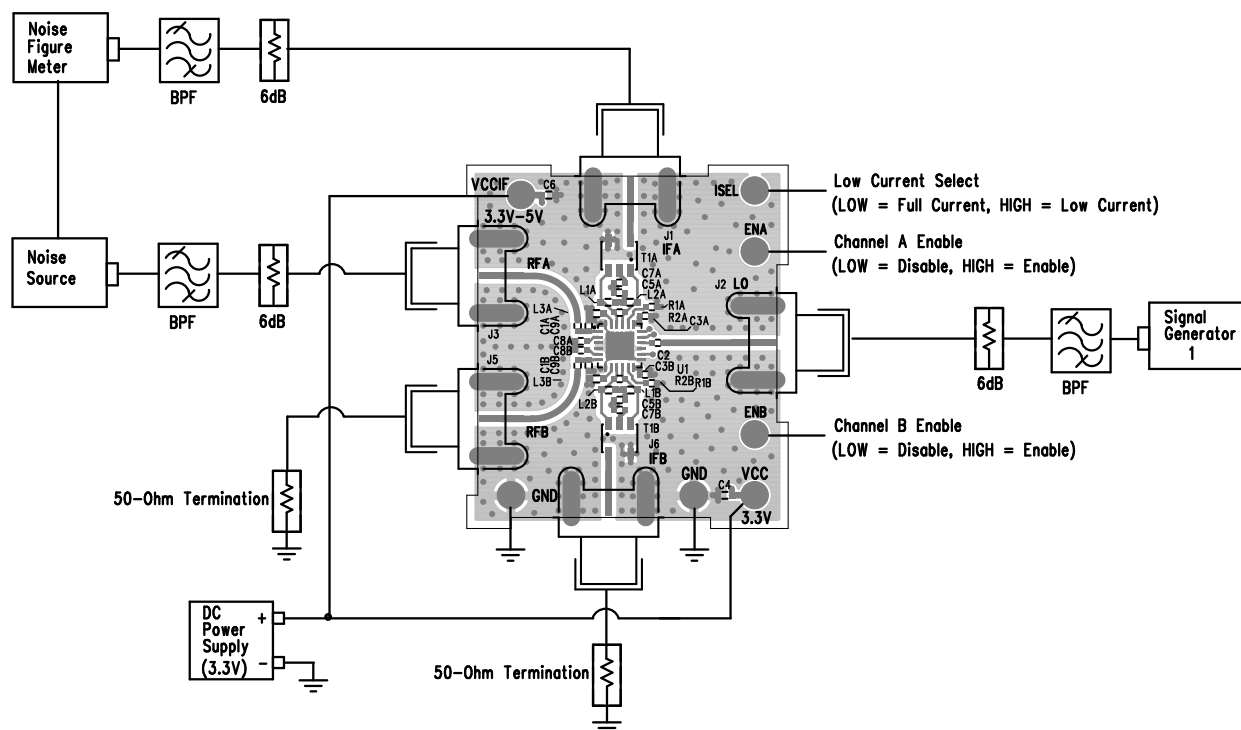

Figure 7. Proper Equipment Setup for Noise Figure Measurement
The LTC5592 is a dual high dynamic range downconverting mixer IC with very high input 3rd order intercept. Accuracy of its performance measurement is highly dependent on equipment setup and measurement technique. The recommended measurement setups are presented in Figure 5, Figure 6, and Figure 7. The following precautions should be observed:
The LTC5592 consists of high linearity passive double-balanced mixer cores and IF buffer amplifiers. Due to the bidirectional nature of all passive mixers the $\text{LO} \pm \text{IF}$ mixing products, also referred to as pseudo-image spurs, are always present at the RF input, typically at a level 12dB below the RF input signal. Mismatched impedances at the pseudo-image spur frequencies, such as when filters are used for SSB NF measurements, can significantly impact the linearity and noise figure measurements. To avoid interference from the pseudo-image spurs, terminate the RF input port with an isolator, diplexer, or attenuator. In the recommended measurement setups presented in Figure 6 and Figure 7, the 6dB attenuator pad at the demonstration circuit's RF input serves this purpose.
Demonstration circuit 1710A-C is easy to set up to evaluate the performance of the LTC5592. Refer to Figure 5, Figure 6, and Figure 7 for proper equipment connections. The following procedures describe performing measurements on Mixer Channel A. The measurement procedures for Mixer Channel B are identical.
2. Connect all test equipment as shown in Figure 7 with the signal generator and the DC power supply turned off.